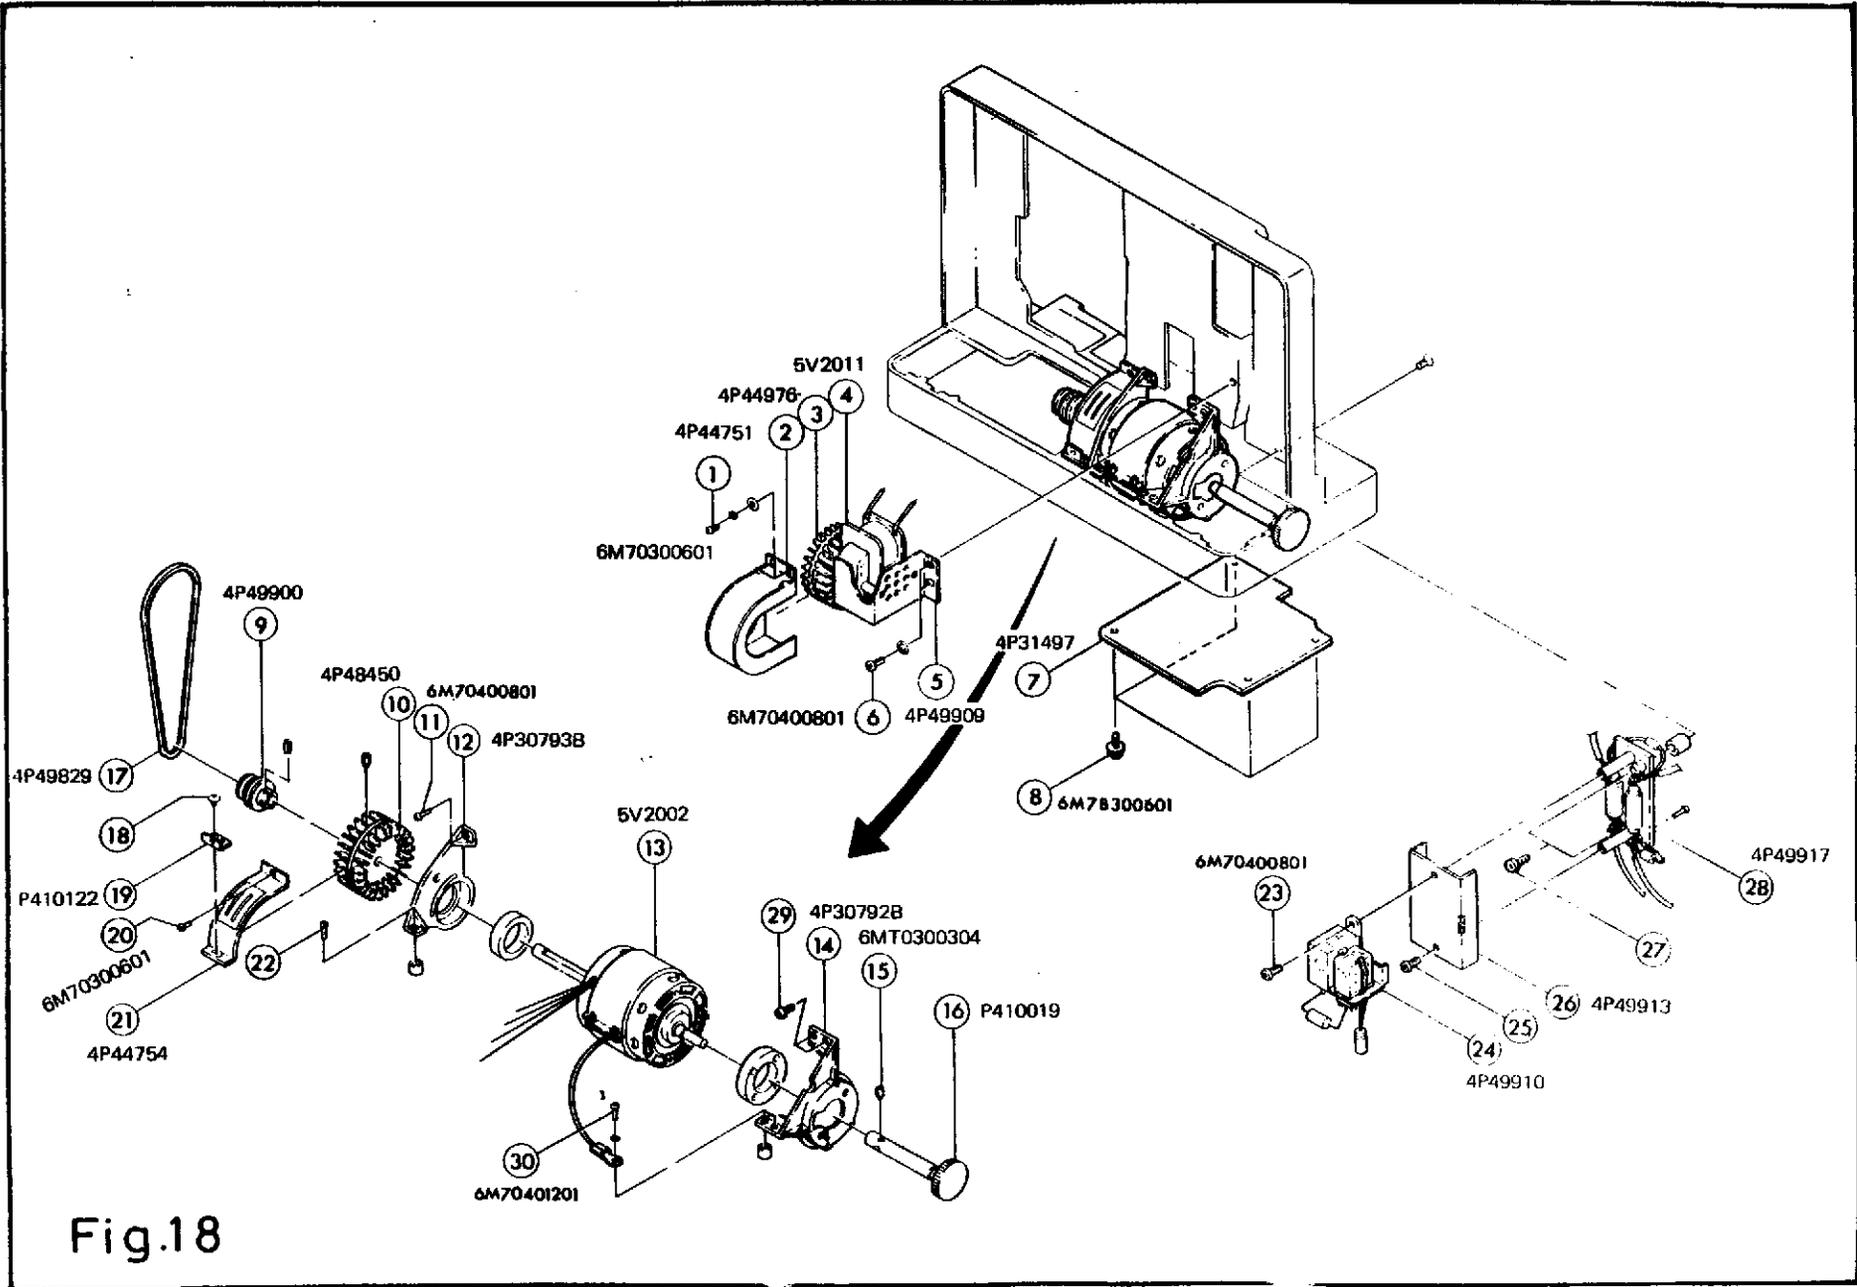

Fig.18
TROUBLESHOOTING: Refer to Fig. 18.
1. Unscrew (1) x 2 to remove (2).
2. Unscrew (6) x 2 to loosen (5).
3. Unscrew (23) to remove (24).
4. Unscrew (25) to remove (26).
5. Unscrew (27) x 2 to remove (28). Unsolder four wires (White, Red).
6. Unscrew (8) x 4 to remove (7).
7. Remove (17). Unscrew (18)(20) to remove (21).
8. Unscrew (11)(22), (29) x 2, (30) x 2 to remove an assembly of (9) to (16). Unsolder wires (Black, Red, Orange, Blue) connected with (13) from other ends.
9. Disassemble further referring to Fig. 18.